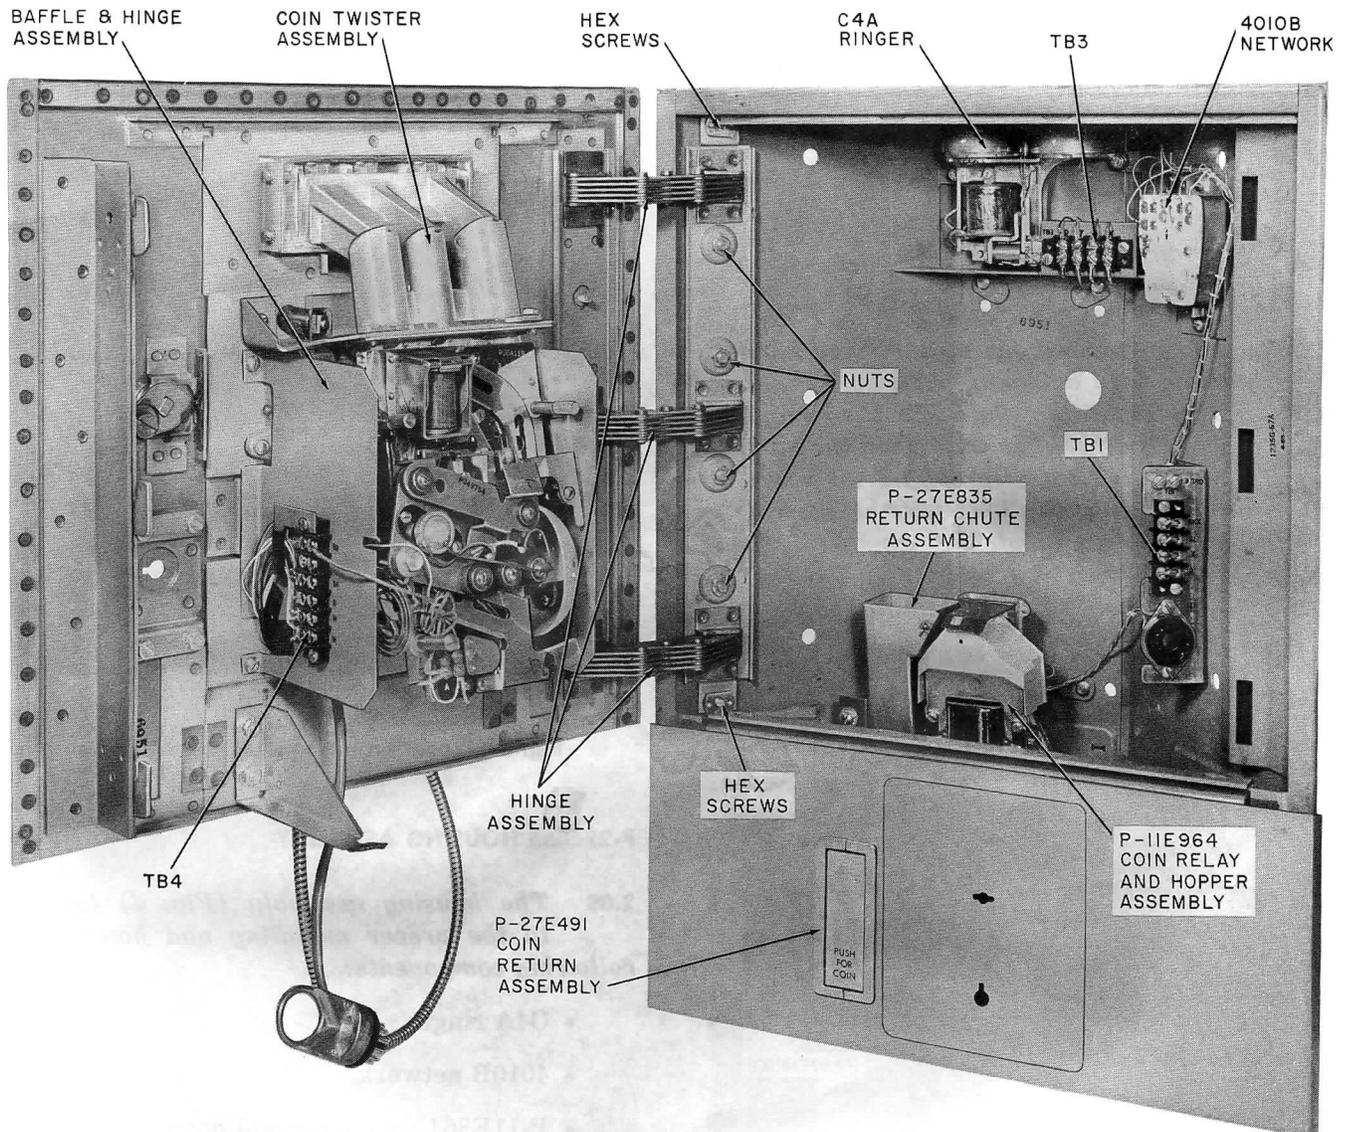

Fig. 4 — 235- and 1235-Type Coin Telephones, Interior
2.03 The door can be removed from any set by taking the four nuts and two screws (Fig. 4) off the hinge assembly.
2.06 To remove baffle and hinge assembly (Fig. 4):
- (1) Remove coin chute.
- (2) Disconnect dial leads on TB2.
- (3) Remove baffle and hing assembly (Fig. 4).
- (4) Remove all mounting screws from dial housing.
- (5) Remove dial and housing.
- (6) Remove screws in dial.
- (7) Remove dial from housing.
- (8) Replace dial by reversing the removal procedure.
- (2) Remove cord leads from TB4 (Fig. 4). See section on connections for cord leads.
- (3) Remove cord and handset.
- (4) Replace handset by reversing the removal procedure.
2.09 *The housing assembly (Fig. 4) fastens to the proper mounting and houses the following components:*
- (4) Connect inside wire at TB1, T, R, and GRD (Fig. 4). Dress wire away from door.